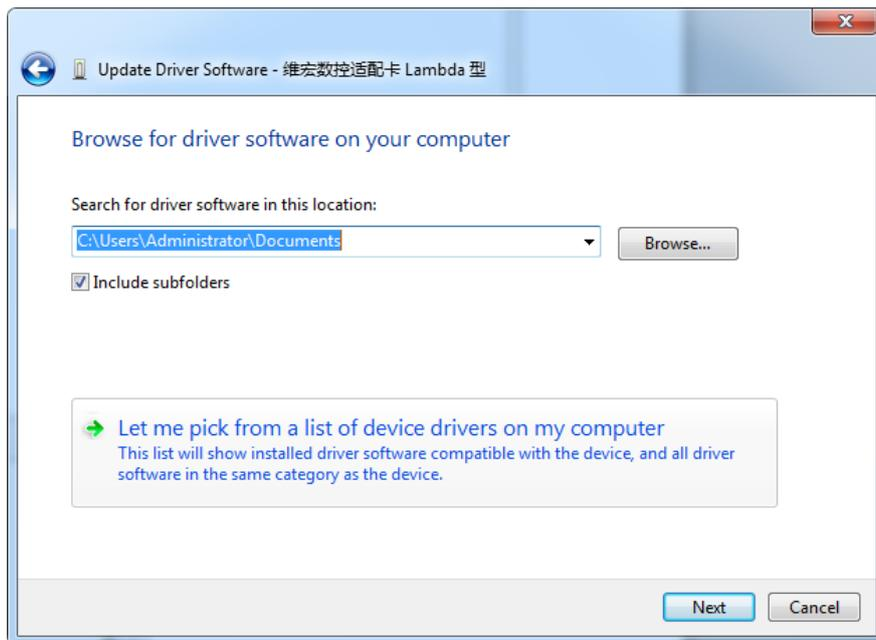

Fig. 1-4 Choose Search and Installation Option
- 3) A dialog box as Fig. 1-4 will pop up. Click “Let me pick from a list of device drivers on my computer”.